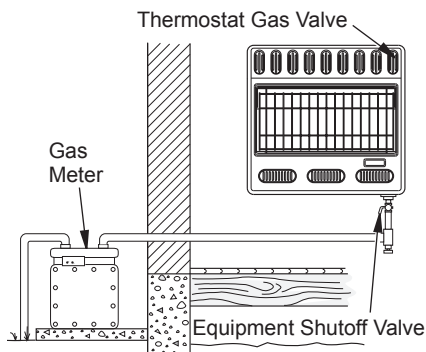

Figure 17 - Checking Gas Joints for Natural Gas
3. Check all joints from gas meter for natural gas or propane/LP supply tank to equipment shutoff valve (see Figure 17 or 18). Apply a noncorrosive leak detection fluid to all joints. Bubbles forming show a leak.
4. Check all joints from equipment shutoff valve to thermostat gas valve (see Figure 17 or 18). Apply a noncorrosive leak detection fluid to all joints. Bubbles forming show a leak.